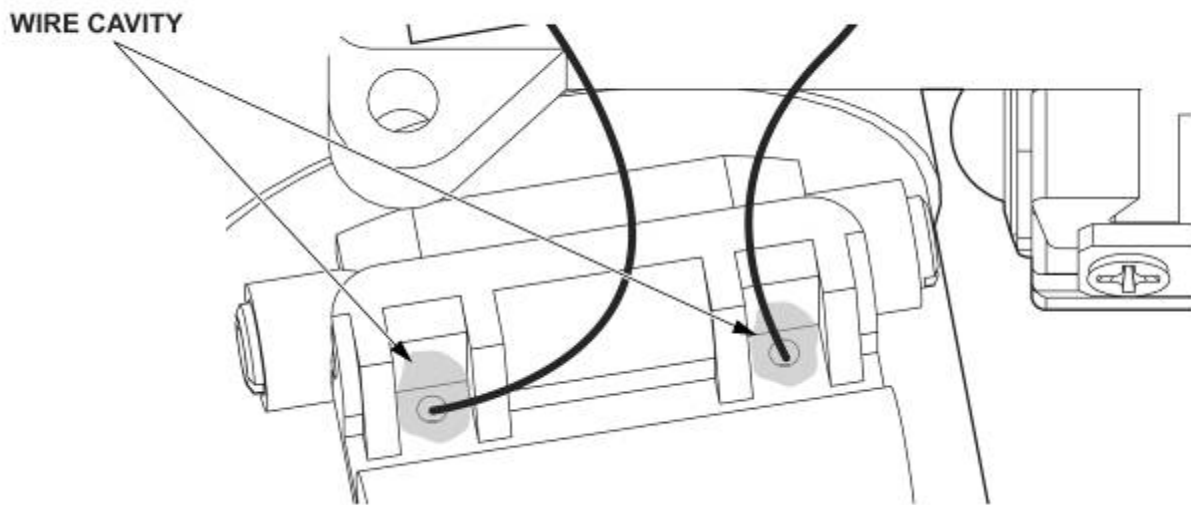

Figure 1. Monocular Housing Assembly Wire Cavity Location
2. Apply a small amount of primer to the cavity where each wire exits the monocular housing assembly (Figure 1). Allow primer to cure for at least 1 hour at 50 percent relative humidity before applying adhesive.
3. Apply a sufficient amount of adhesive to cover the bottom of the cavity where each wire exits the monocular housing assembly (Figure 1). Prevent adhesive from spreading beyond cavity area.